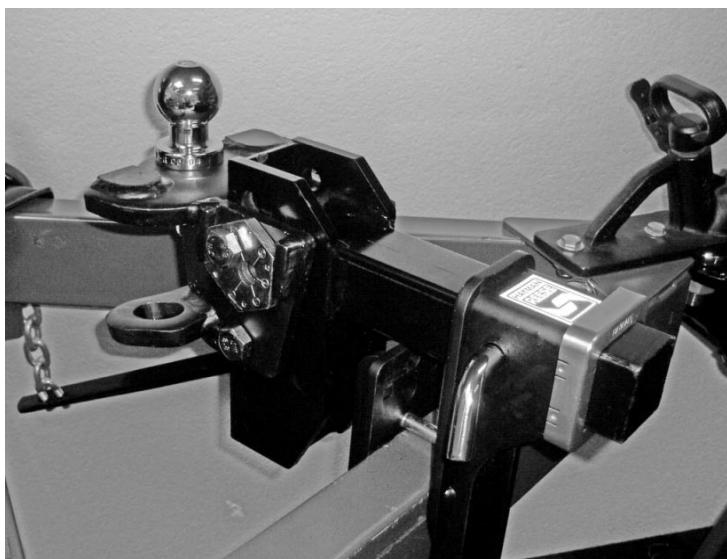

Figure 2 – Weight Distribution Holder
2. Fit the M12 bolt, flat washer, spring washer and nut in the hole that suits the trailer A Frame size, and lock the Head & Shank assembly with a lockable pull pin, as shown in Figure 2.
Note: 150mm drop shank to mount in reverse direction to Figure 2.